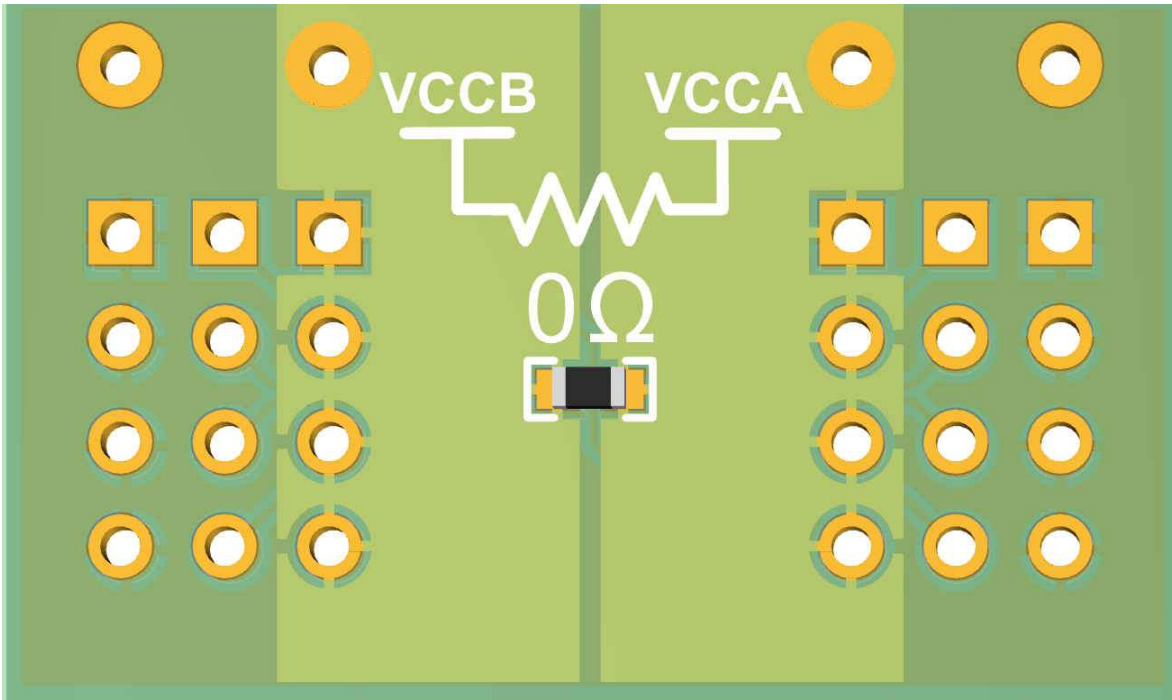

Figure 2-3. Single Supply Configuration
3. Ensure EVM is configured accordingly for dual supply or single supply device. EVM comes default configured for dual supply devices, but is easily configured using a 0- Ω resistor for single supply devices. Figure 2-3 illustrates how this is done.